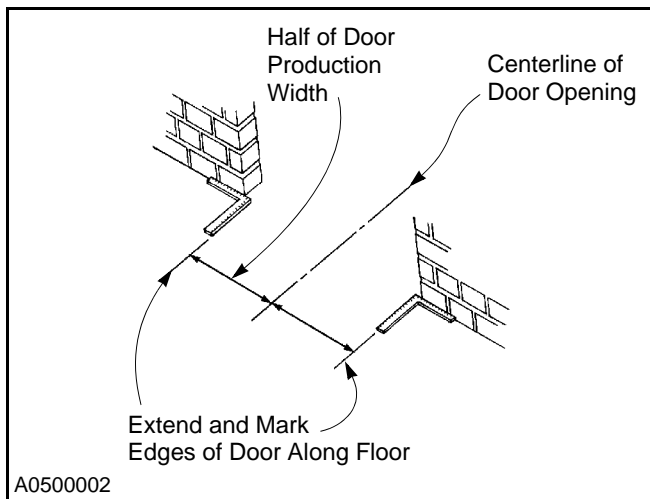

Figure 6
2. Using the centerline as a reference point, lay out and mark half of the door's production width along the floor. (See Figure 6.)